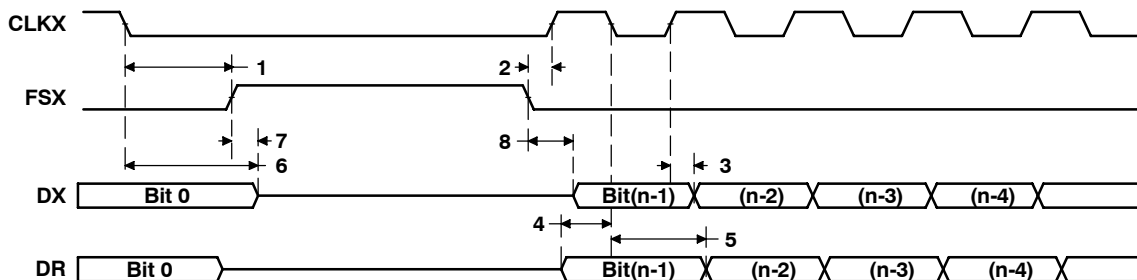

Figure 34. McBSP Timing as SPI Master or Slave: CLKSTP = 10b, CLKXP = 0
(see Figure 34)
**switching characteristics over recommended operating conditions for McBSP as SPI master or slave: CLKSTP = 10b, CLKXP = 0†‡ (see Figure 34)**